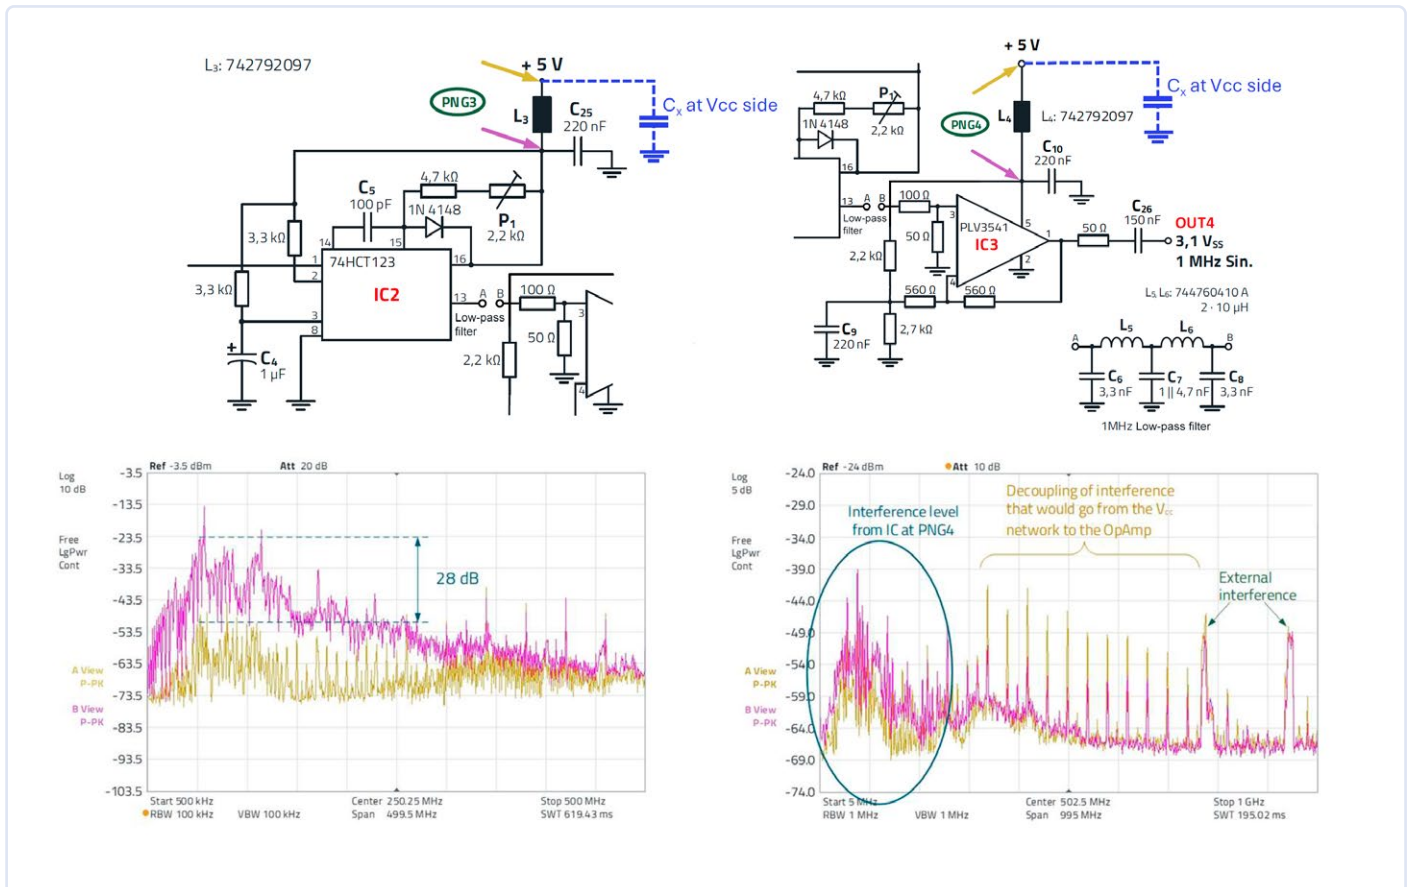

Figure 3: Illustration of the effect of Vcc decoupling filters.
2. **Decoupling capacitors and Vcc/Vdd filters:** Decoupling capacitors and filters for the IC power supply are placed directly near the power supply connections of the ICs to block high-frequency interference. They not only help to reduce voltage fluctuations and ensure a stable power supply, but also block interference from the IC. The selection of suitable filter components is essential [2]. **Figure 3** illustrates the situation.
The circuit on the left in Figure 3 shows that the π-filter, consisting of C25, the SMD ferrite L3 and the capacitors in the power supply, causes an attenuation in the system of up to 28 dB. It is important to understand that this attenuation works in both directions; this case is illustrated on the right in Figure 3. The interference potential on the power supply side in the frequency range above approx. 300 MHz is attenuated by approx. 10 to 15 dB towards the amplifier IC3, while the interference potential generated on the